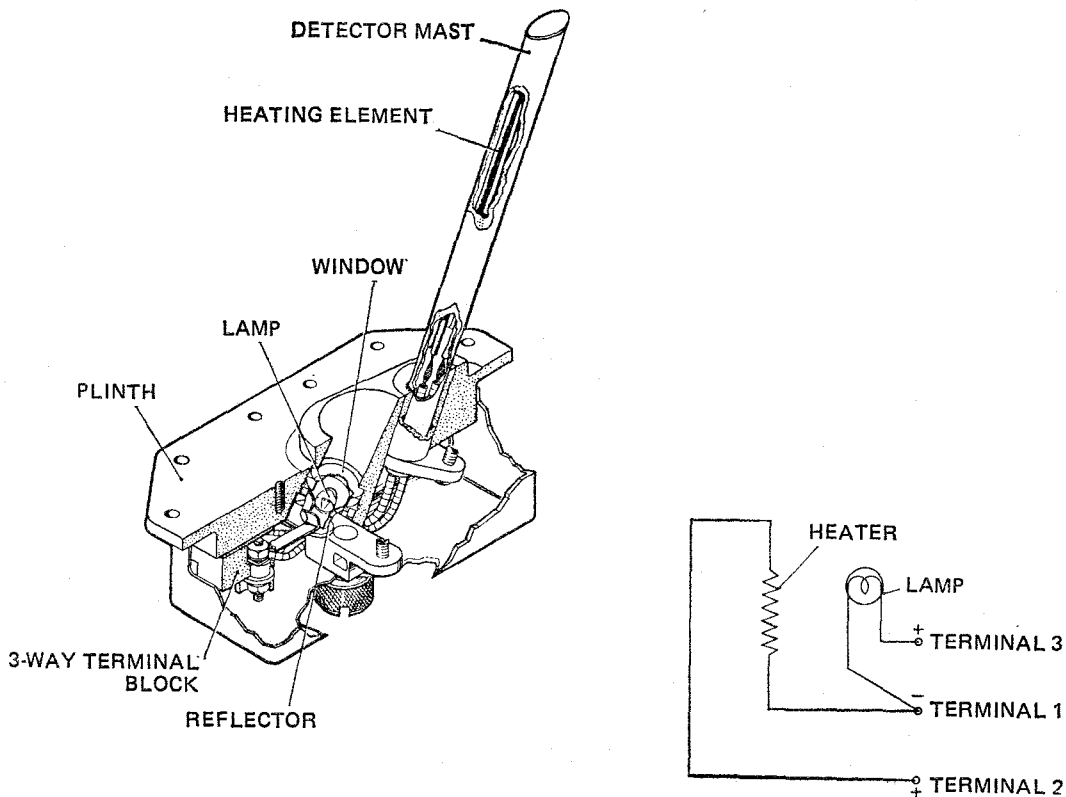

Figure 2 HOT ROD ICE DETECTOR HEAD
3.2 **Hot Rod Ice Detector Head.** This consists of an aluminium alloy oblong base (called the plinth) on which is mounted a steel tube detector mast of aerofoil section, angled back to approximately 30° from the vertical, mounted on the side of the fuselage, so that it can be seen from the flight compartment windows. The mast houses a heating element, and in the plinth there is a built-in floodlight (Figure 2).